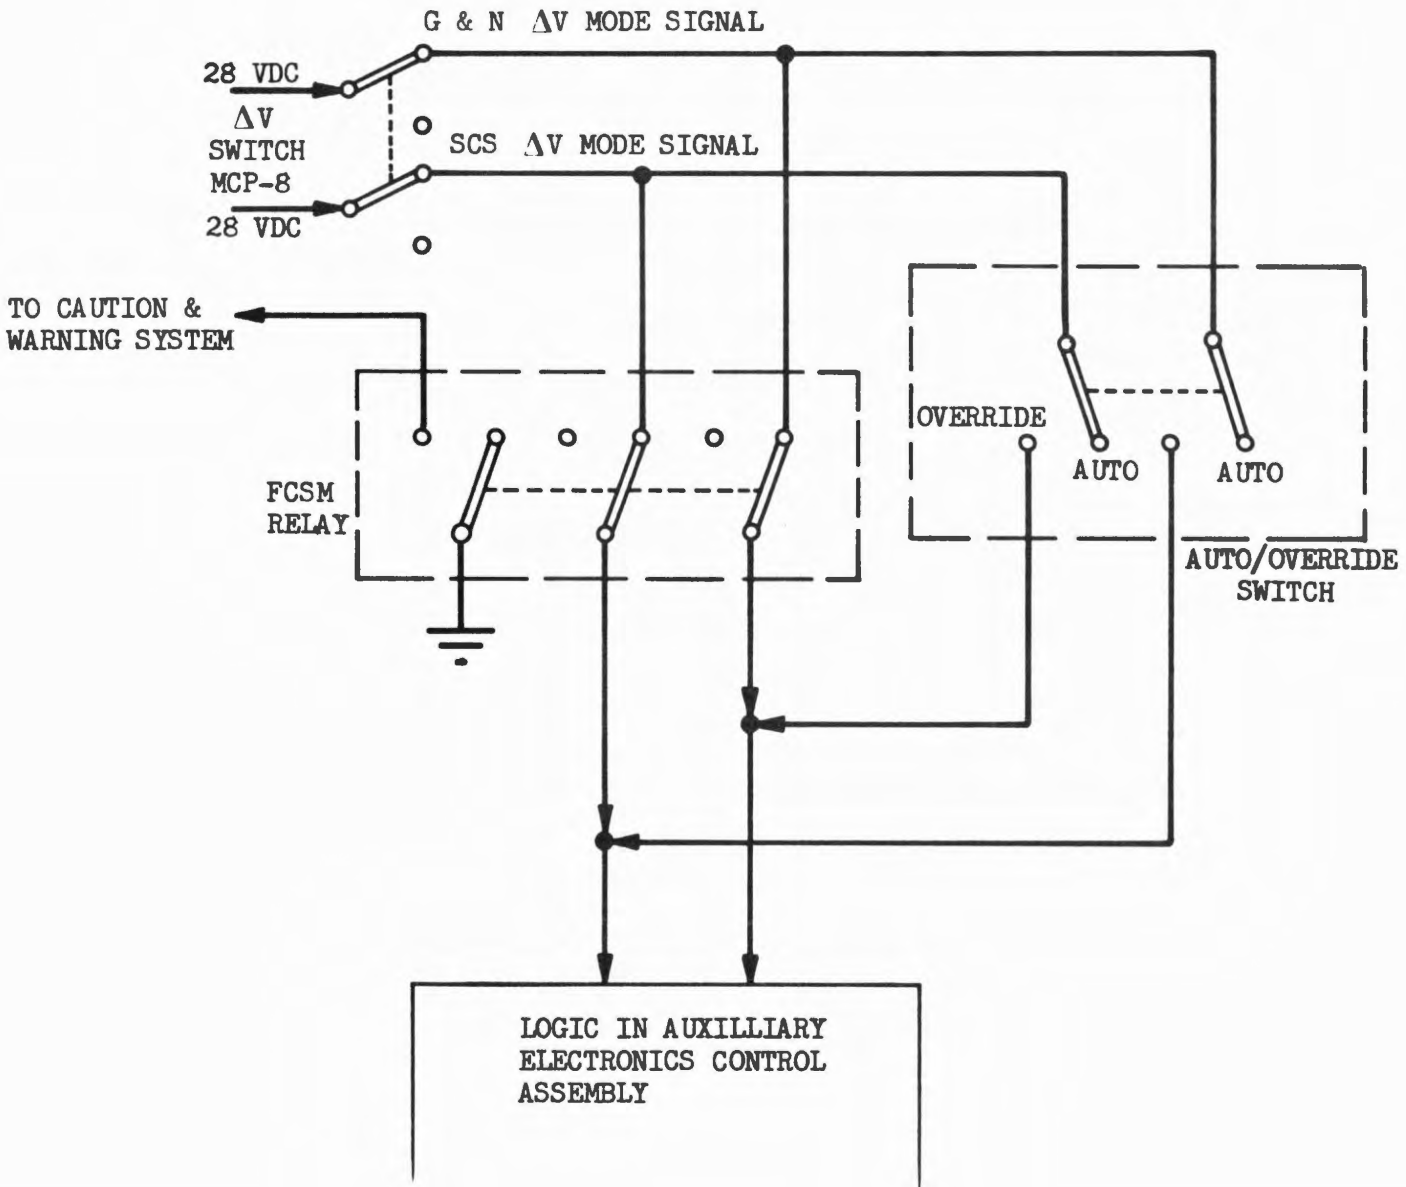
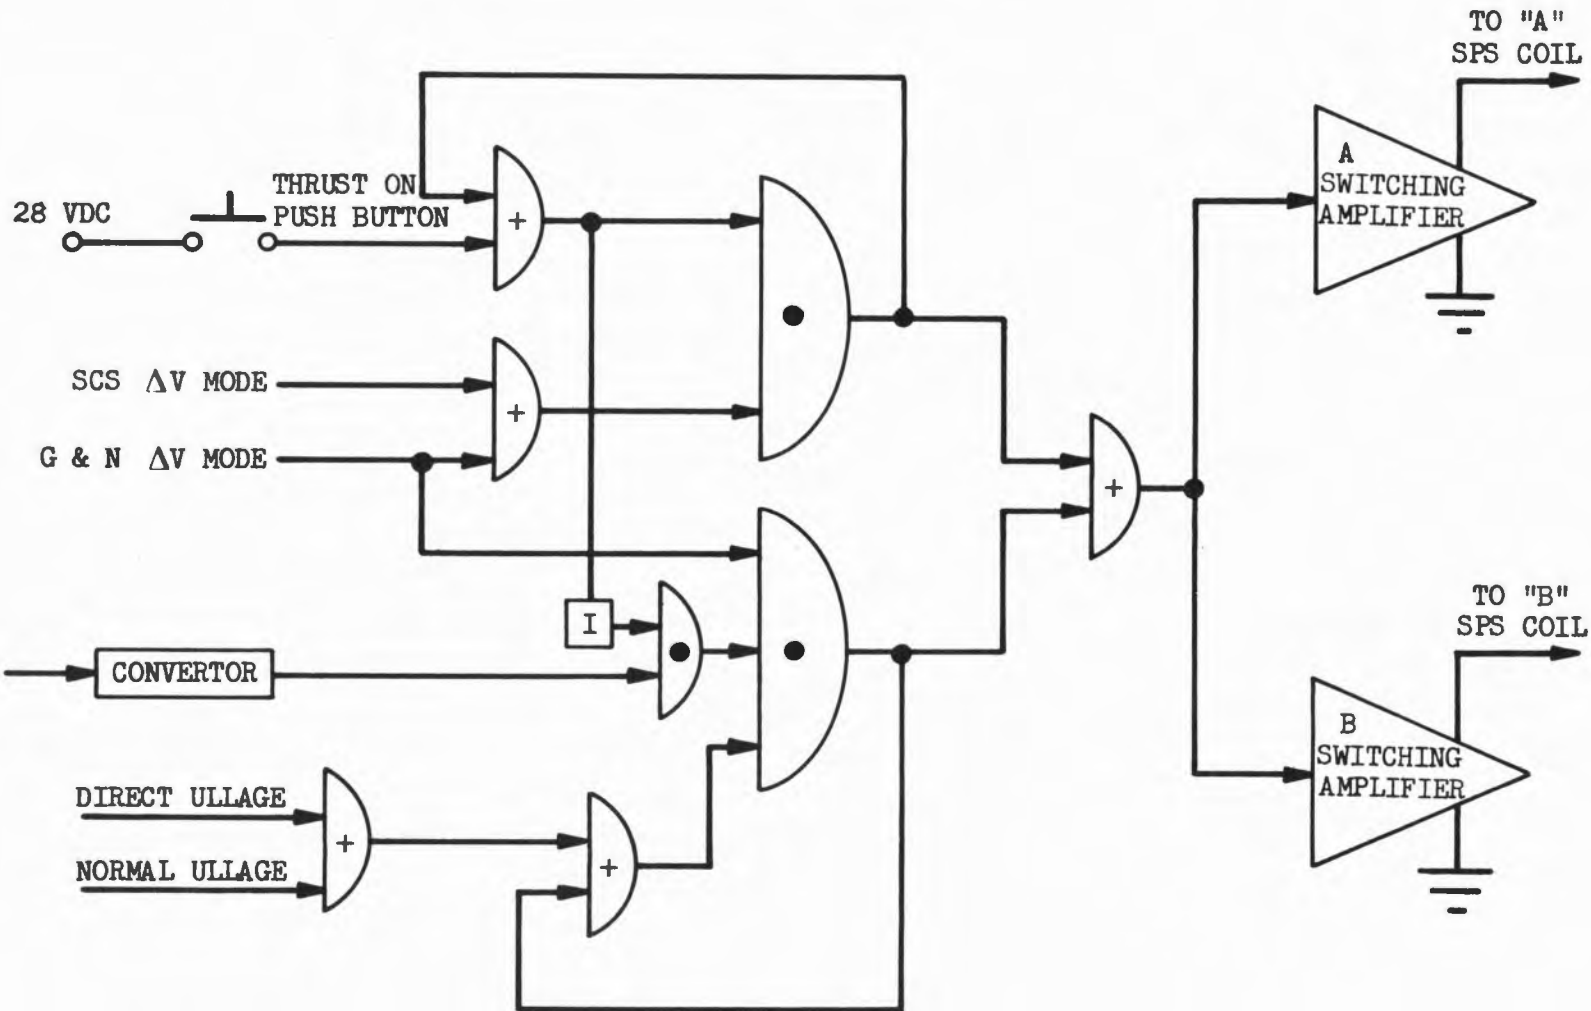

Figure 5-23. Flight Combustion Stability Monitor/SCS Interfaces
Figure 5-25. Integrated Thrust On Control Logic
5.2.2.2.5 A Flight Combustion Stability Monitor (FCSM) circuit has been added. This circuit can also cause a failure-to-fire, or a cutoff during the SPS firing. This circuit interfaces with the SCS as shown in Figure 5-23. The logic involved, uses the interruption of the Delta V mode signal to cause engine cutoff in either the G&N or SCS Delta V mode. A special section describes the function of the circuit in greater detail including restart procedures. When the circuit has actuated, the caution and warning panel labeled "SPS ROUGH ECO" is illuminated.
reading of 00000. The switch applies ground momentarily to remove one of the inputs to the SCS auto logic "and" gate causing interruption of the SCS auto on signal, (see Figure 5-25). The following operation is the same as the G&N automatic control function. Placing the thrust control switch in the OFF position opens both the 28 vdc and ground paths to the SPS coils providing a positive interruption of SPS firing regardless of the malfunction causing the continuing engine on signal, (see Figure 5-23).
5.2.2.3.3 Figure 5-25 shows the method of SPS ON/OFF control that may be used if a failure in the G&N auto on path is suspected. The SCS auto on logic is satisfied by the presence of either a G&N Delta V mode signal or an SCS Delta V mode signal. The SCS thrust on pushbutton signal or the latching signal is used as an inhibiting signal in the G&N auto control loop. Depressing the thrust on pushbutton, while in the G&N Delta V mode, will turn on the SPS, inhibit the G&N auto control path, and permit continued use of the G&N control and display signals.
5.2.2.6 Flight Combustion Stability Monitor. The possibility of a combustion instability developing during SPS ignition or burn has caused the addition of detection circuitry to the SCS that will cutoff the thrust signal. The interface of this signal with the SCS is shown in Figure 5-23. Activation of the detector will open both the G&N and SCS Delta V mode lines causing both auto control circuits to open and return the switching amplifiers to the "off" state. The override position of the auto/override switch bypasses the circuitry for emergency or malfunction cases. For example, for SPS abort during launch the switch would be in the override position. It is important to be able to separate from the S-IVB in an emergency. A false shutdown could add a significant time delay to SPS ignition or reignition. The direct on circuit also completely bypasses the FCSM circuitry.